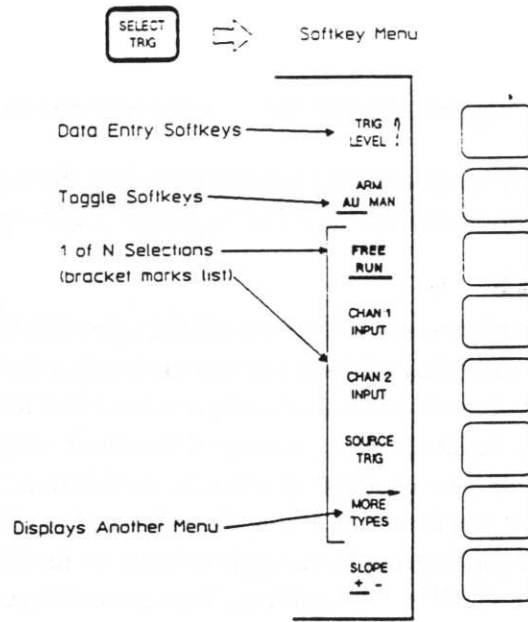
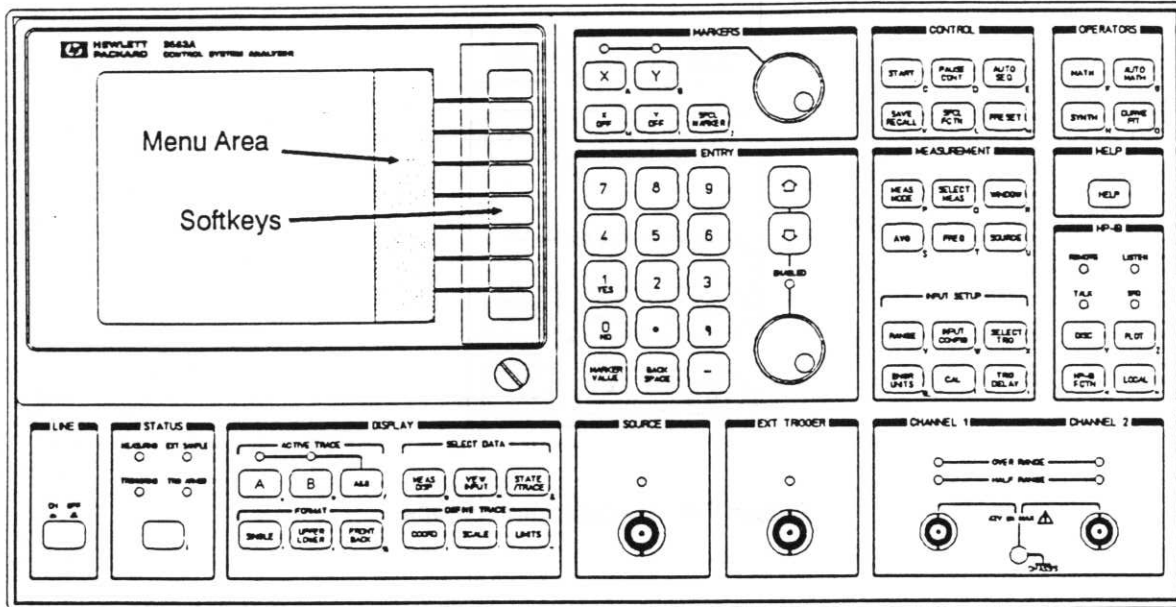

Figure 1-1. Softkey Example: Select Trigger Menu
Figure 1-2. HP 3563A Front Panel Connection
**Softkeys** are the eight keys aligned in a vertical column at the right side of the analyzer's screen (see figure 1-2). The function of these keys changes as you press other hardkeys or, in some cases, other softkeys. A softkey's current function is indicated by a video label to the left of the softkey (on the edge of the analyzer's screen). Softkeys perform several functions, as shown in figure 1-1. In some cases, two or more softkeys may be grouped by a left-bracket into a 1-of-N selection. In this case, only one softkey in the group can be active at any time (the active softkey appears highlighted and underlined). In other cases, a softkey may be a toggle softkey — its label contains two or more choices. An example of this is the **SLOPE + -** softkey. You press this softkey to toggle between a positive or negative slope (the active choice appears highlighted and underlined).
**Softkey Menu or Menu** refers to the list of video labels next to the softkeys (see figure 1-2).
**Menu Diagram** shows all softkeys available under a hardkey (for an example, see appendix C which contains menu diagrams for all hardkeys). Default selections are underlined and shown in bold type (for example, figure 1-1 shows that **FREE RUN** is the default trigger type).